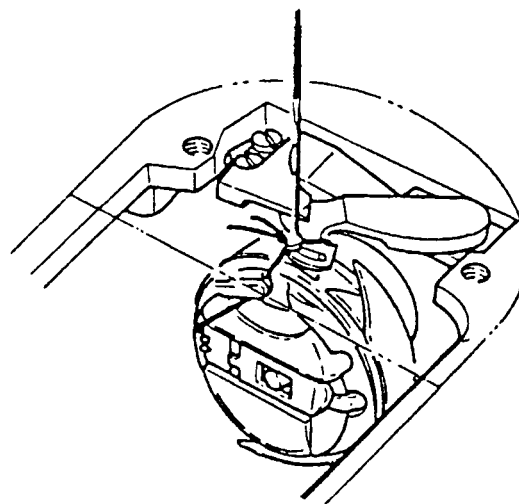

Fig. 41
5. As the needle thread is cast off the rotating hook, it catches on the hook portion of the thread puller. (Fig. 41)